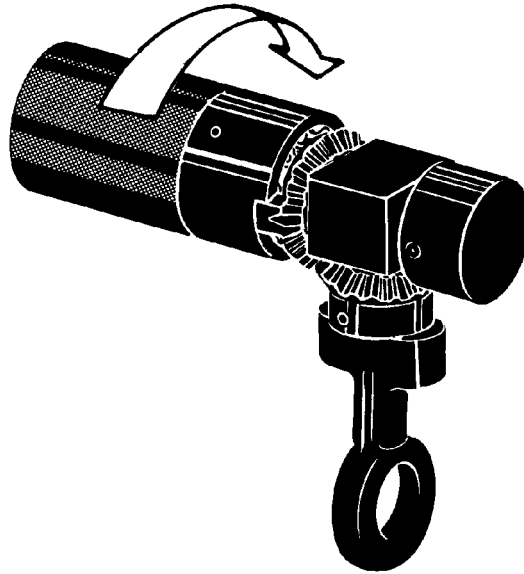

Figure 44
6. Ensure that retaining ring is properly located in breech nut sleeve groove. Then turn the gas release assembly clockwise until it bottoms against retaining ring to make sure that the retaining ring acts as a positive stop (Figure 44).